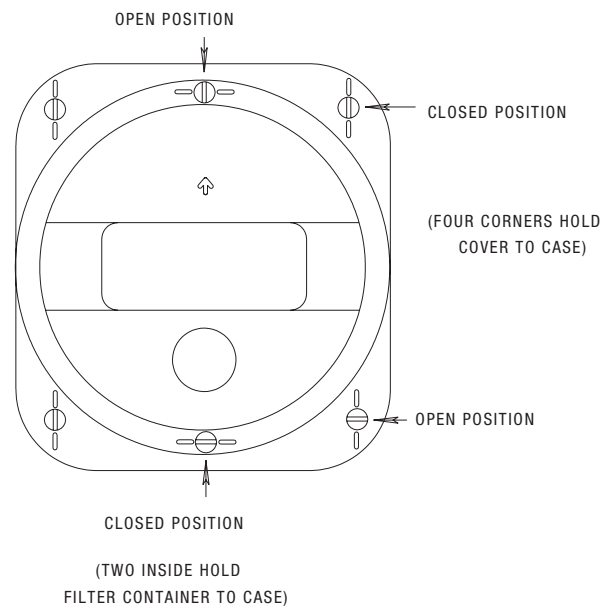

FIGURE 1
2. Open the quick-release fasteners on the four corners of the case front by rotating the fasteners 1/4 turn. (See Fig. 1)
7. Replace the case front by rotating the quick-release fasteners to the "closed" position: the fastener will line up with the lines in the case. In this position they are parallel with the case side (See Fig. 1). With the fasteners in this position, place the case front onto the canister and press the quick-release fasteners into the two holes. When they "click", they are fastened. If they do not "click" or fasten, then check to see that they are in the closed position described above.